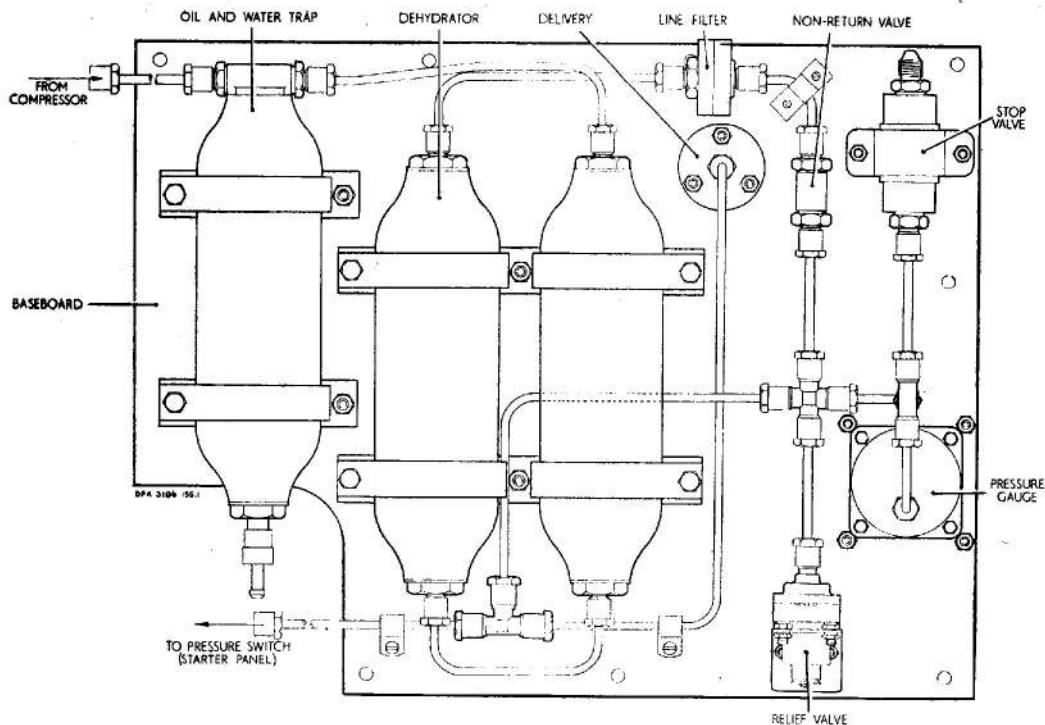

Fig. 2. Pneumatic panel
3. Incorporated in the unit and attached to a panel secured to the frame is a pneumatic air drying and purifying system (*fig. 2*) which ensures that air emerging from the compressor is suitable for operational use when it reaches the delivery point located on the front of the panel.
4. The components of the pneumatic panel are mounted as shown in *fig. 2* and incorporate an oil and water trap, two dehydrators, a non-return valve, a stop valve, a line filter, a relief valve and a pressure gauge which is located on the front of the panel.